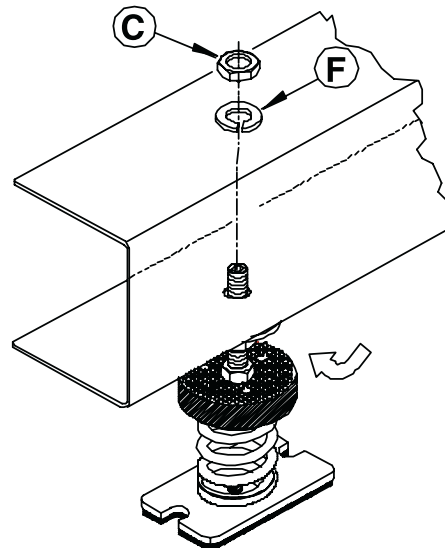

Fig. 3
- Fig. 3) Make sure that the bedplate of the machine is arranged on the flat washer (pos. E) of the jack. Use a wrench 13 and act on the high nut (pos. D) (Fig. 3) to balance any difference in height. Use a grower washer (pos. F) and act on the low nut (pos. C) to lock the position you have reached. At the end of the operation make sure the machine is elastic on the axes and ready for the installation of any vibration-damping balancing joint in the water connections.